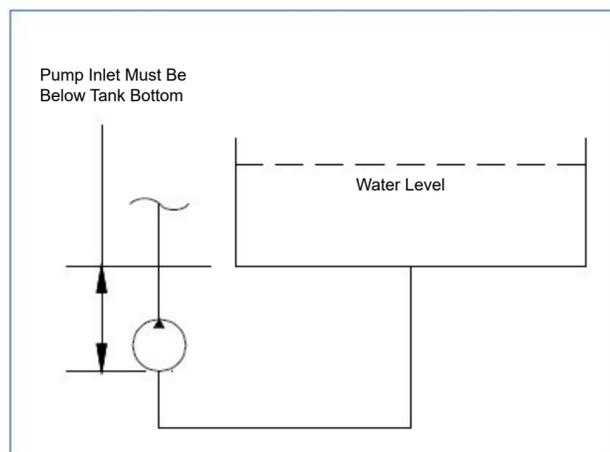

Figure 4.3 – Gravity Feeding Source
- Gravity feeding water source (See Figure 4.3). Use a hose with a diameter of at least 1-1/2" to connect the water tank to the power unit water inlet.
Ensure that the water source can reliably deliver the maximum pump flow of 20 GPM (76 L/m). A minimum flow of 30 GPM (114 L/m) is recommended to ensure that the pump is not starved of water. If connecting to a gravity feed tank, locate the tank outlet above the water inlet connection on the power unit to ensure a flooded suction line. (See Figure 4.3).